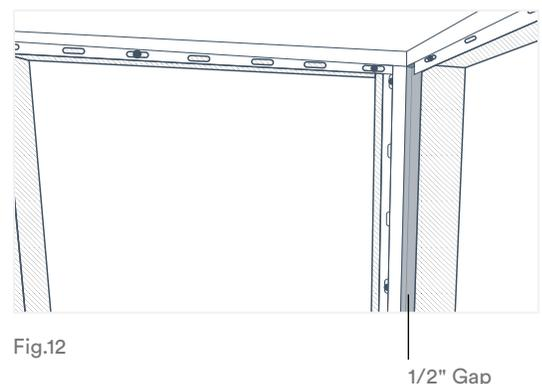

Fig.12
2. Using J Trim or Inside Cove Corner Trim for your corners, start with the corner where you cut the J Trim 1/2" short and offset the vertical trim piece from the corner 1/2" to allow enough room for the last wall panel to be inserted behind the trim when you are finished (Fig. 12). Then, install perimeter trims required around openings like doors or windows.